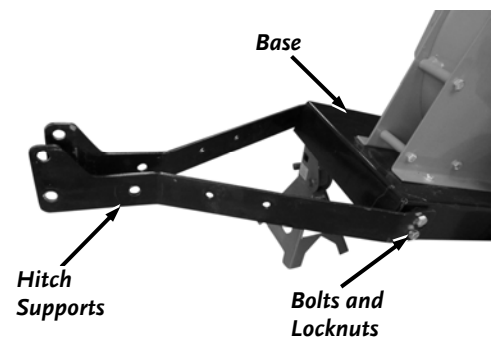

Figure 45
3. Install the two Hitch Supports onto the Frame as shown with the four Bolts and Locknuts you removed earlier using two 9/16" wrenches (**Figure 45**). Leave the Hardware loose for now.
5. Tighten the Hardware that secures the Hitch Supports to the Frame (**Figure 45**).